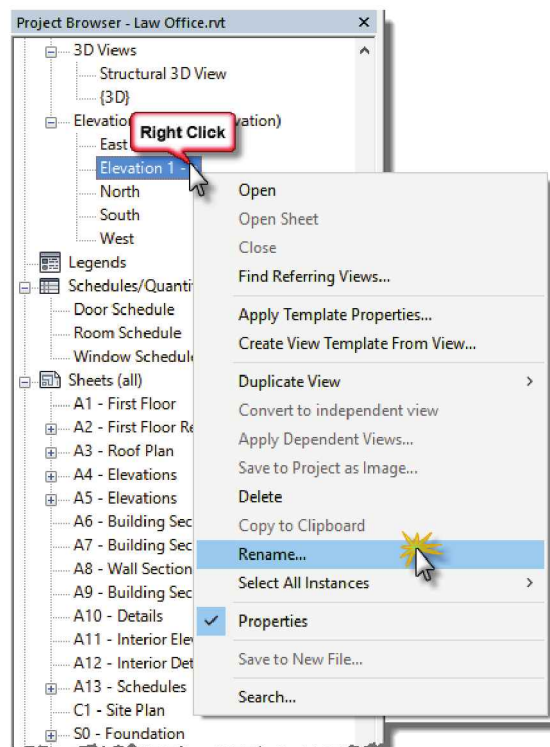

FIGURE 10-1.2 Renaming new view name
5. Right-click on the view name and select **Rename** (Figure 10-1.2).